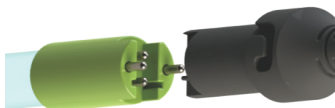

Figure 9a. Standard Output UV Lamp Connection
Step 13: Plug the LUMI-Loc™ lamp connector into the lamp. Note the keying for proper alignment (see Figure 9a, 9b). Insert the lamp connector into the gland nut and turn the connector approximately ¼ turn to lock the connector to the gland nut as in Figure 11.